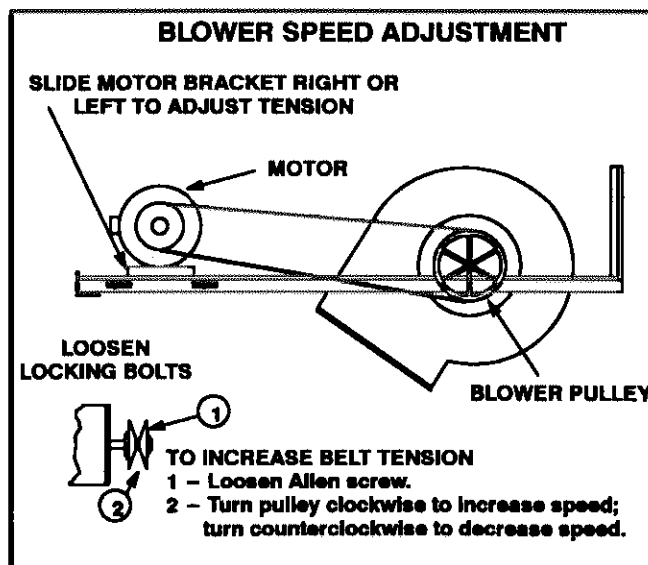

FIGURE 11
- 5— The CFM can be adjusted at the motor pulley. Loosen the allen screw. Turn adjustable sheave clockwise to increase unit CFM. Turn counterclockwise to decrease unit CFM. See figure 11.
Maximum life and wear can be obtained from belts only if proper pulley alignment and belt tension are maintained. Initially, tension new belt(s) a after 24 — 48 hour period of operation. Belt(s) will stretch and seat in grooves during this period. To adjust belt tension, loosen four locking bolts. Turn adjusting screws and slide motor up or down. See figure 11.